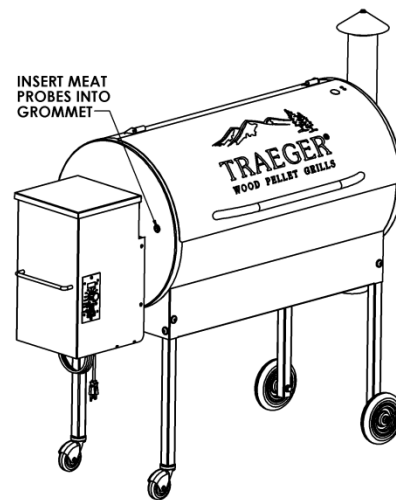

Figure 4-2
- 2) Then insert probes into the grill through the access hole grommet located on the left side of the grill barrel as shown in figure 4-2.